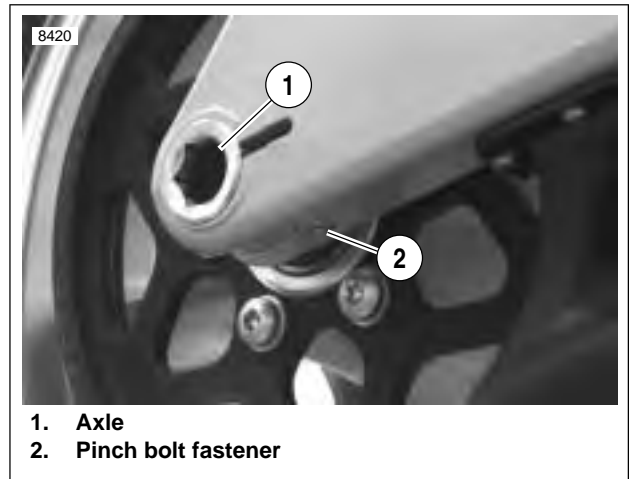

Figure 6-97. Rear Wheel Mounting, Right Side
17. See Figure 6-97. Tighten rear axle (1) to 23-27 ft-lbs (31.2-36.6 Nm), back off two full turns and then retighten to 48-52 ft-lbs (65.1-70.5 Nm).
18. Tighten pinch fastener (2) on right side of swingarm to 40-45 ft-lbs (54-61 Nm).